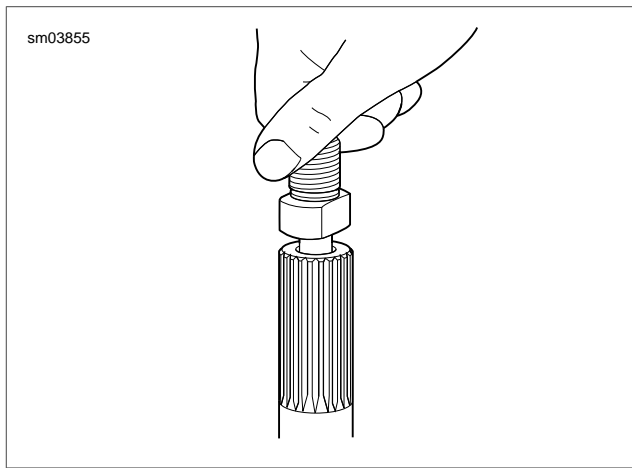

Figure 3-141. Thread Pilot Adapter into Sprocket Shaft
- See Figure 3-141. Thread pilot adapter into sprocket shaft.